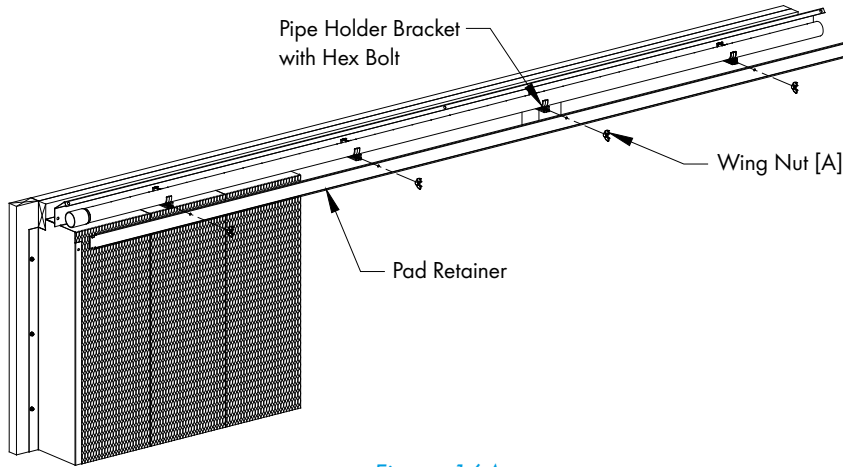

Figure 16A
Find the Pad Retainer and position it onto the bolts in the Pipe Holder Brackets and secure in place with (4) Wing Nuts [A]. See Figure 16A and 16B.